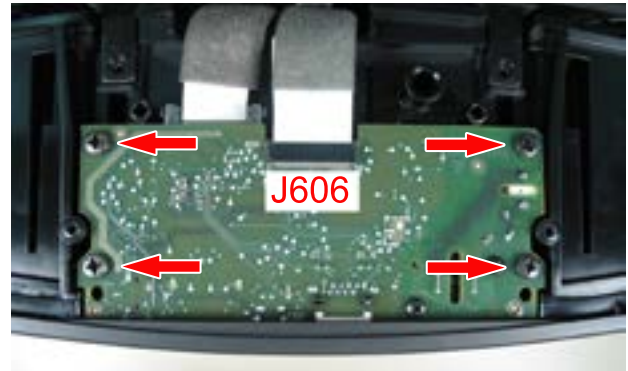

Figure 4. I/O PCB
2.2 Remove the FFC from connector J606. Figure 4.
2.3 Remove the four screws securing the I/O PCB. Figure 4.